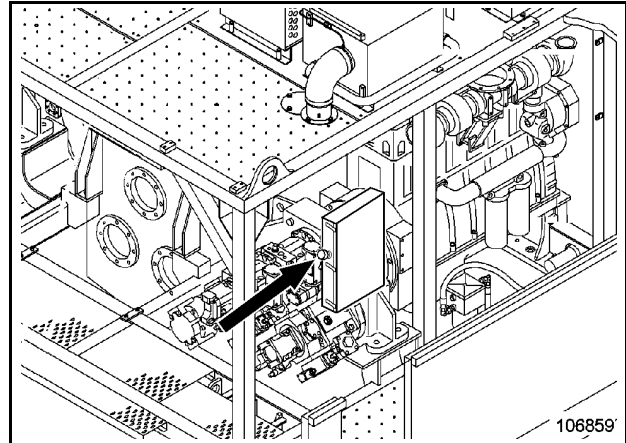

Fig. 2-33:
- by pressing the switch (red) on the drive regulators on the right-hand and on the left-hand side (Fig. 2-33:),